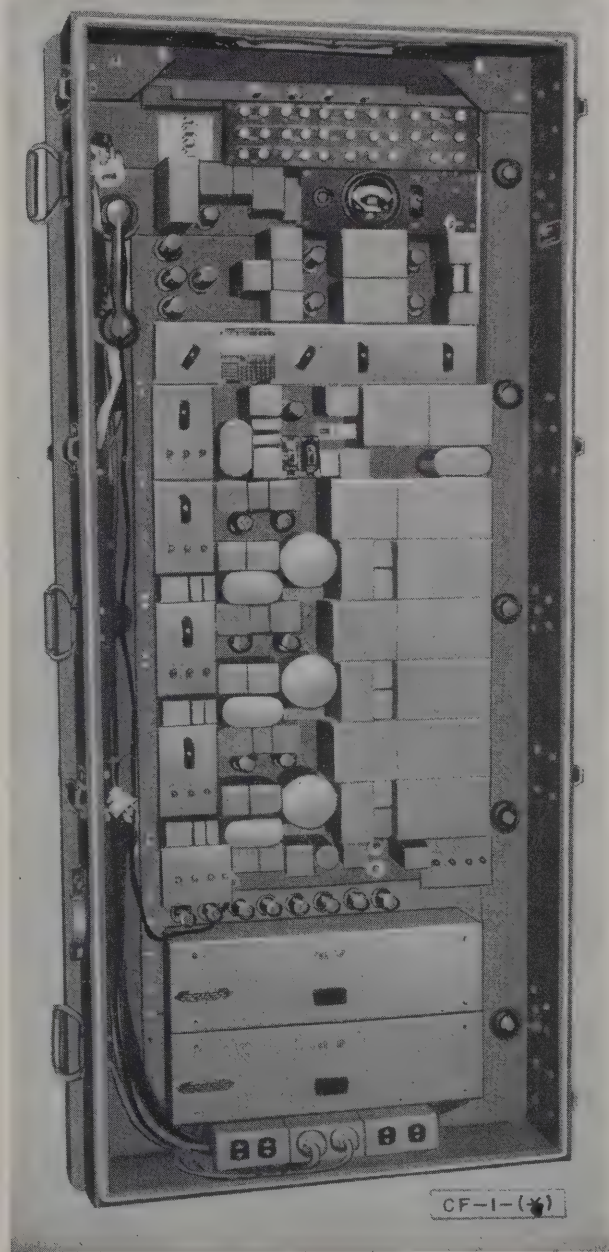

Figure 100. Telephone Terminal CF-1-B.
a. Telephone Terminal CF-1-(*) is the principal component of Telephone Terminal Set TC-21-(*). This terminal (fig. 100) provides four telephone channels. Channel 1 is a v-f channel and channels 2, 3, and 4 are v-f channels superimposed on carrier frequencies. The voice frequencies received on channels 2, 3, and 4 are changed to modulated carrier frequencies at the carrier transmitting terminal and are shifted back to voice frequencies at the carrier receiving terminal. The four channels occupy, approximately, the frequency band from 200 to 12,000 cps. During reception, each of the channels is separated from the others by filters. The transmission in one direction uses one pair of the spiral-four cable and the transmission in the other direction uses the other pair. For satisfactory multichannel communication, radio terminal stations should not be more than 5 miles from the carrier terminal. Telephone Terminal Sets TC-21-A and -B are described in TM 11-341.